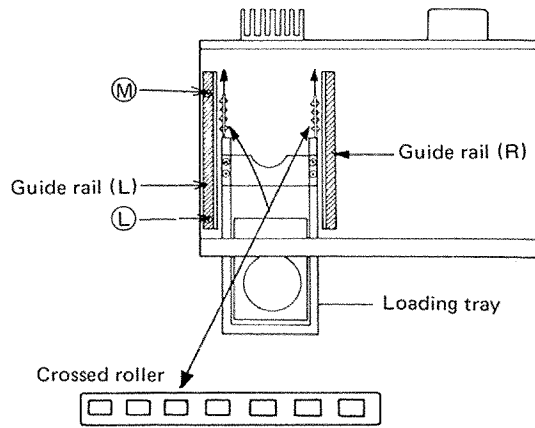

Fig. 7
**4-1 How to remove CROSSED ROLLERS. (Fig. 7)**
- (1) Pull out the LOADING TRAY about a half way.
- (2) Remove screw (M), release screw (L) and widen a span between 2 GUIDE RAILS.
- (3) Take out the left and right CROSSED ROLLERS from the rear.